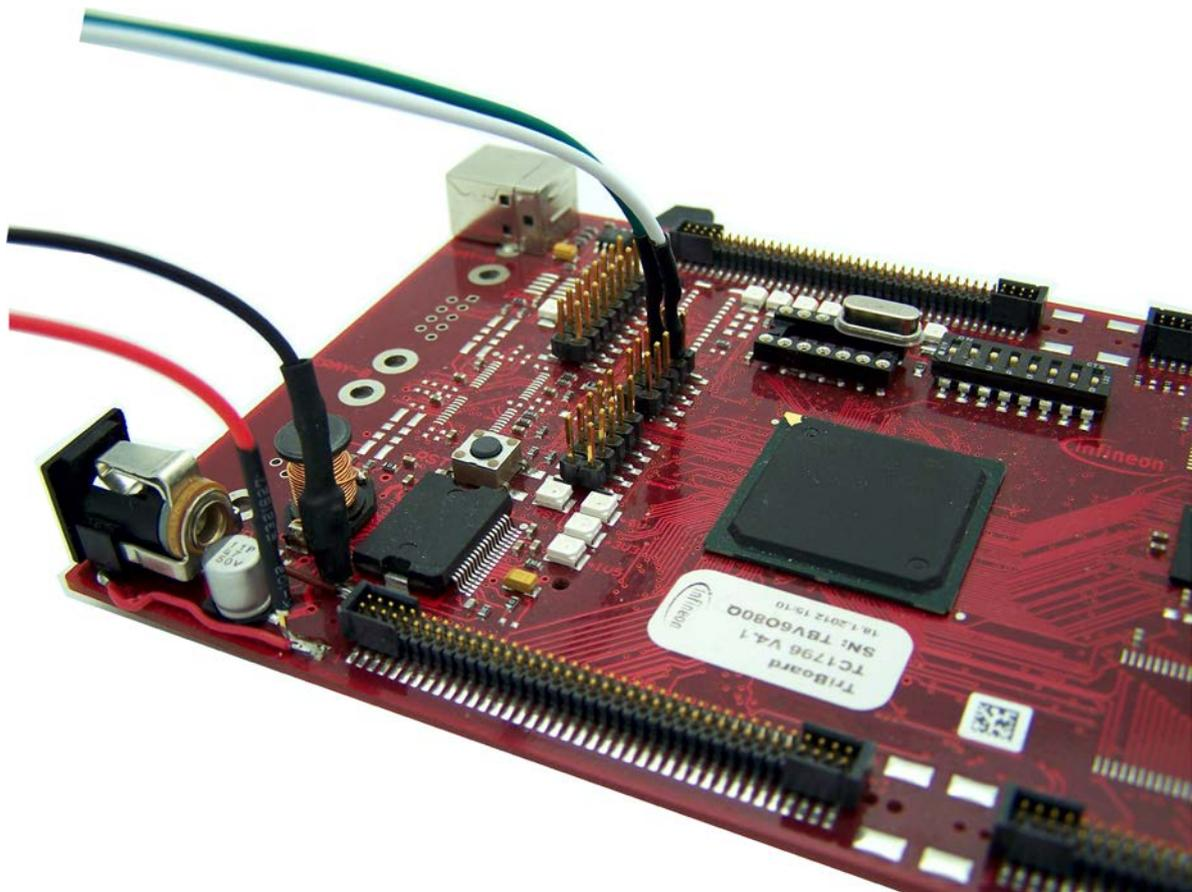

Figure 25 The DB15 Cable connections to Infineon TriBoard with the TC1796 MCU.
- Connect CAN and power pins of the 15 pin cable to the TriBoard (Figure 25).